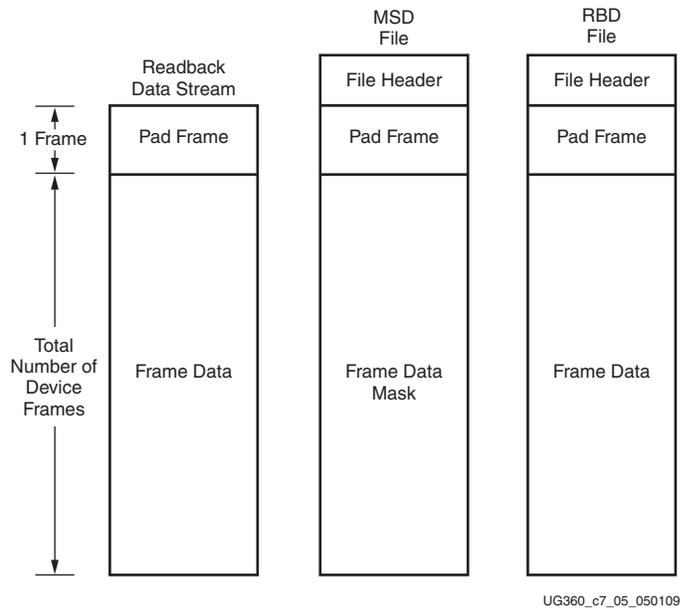

Figure 7-4: Comparing Readback Data Using the MSD and RBD Files
1. Compare readback data to the RBD *golden* readback file. Mask by using the MSD file (see Figure 7-4).